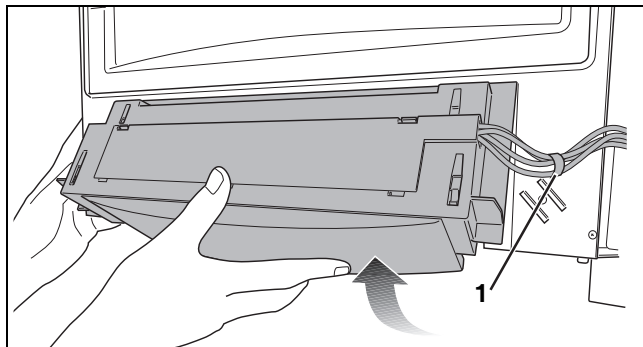

Fig. 98 Removing the control panel
- ▶ Remove the control panel (→ fig. 98).